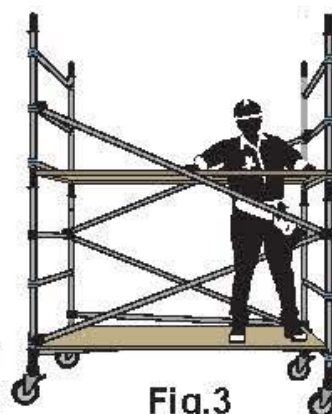

Fig.3
8. Install the next end frames on top of each of the two base frames and install the diagonal brace (blue) above and below the joining point of the base end frames. See Fig. 3.
9. Install one platform as a temporary platform approximately 0.5m from the ground between both end frames. Install a ladder access platform approx 2m from the ground. See Fig. 3.